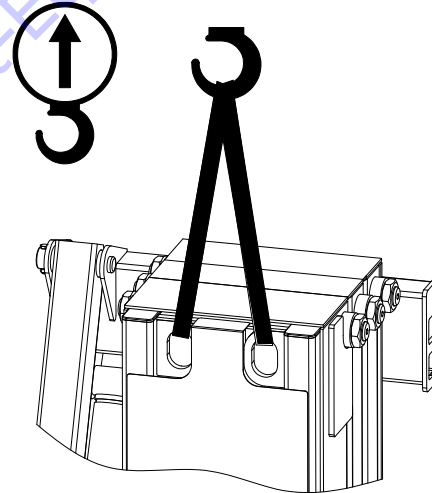

**Figure 4-9. Machine Tie-Down**
- Machine must be tied down to the truck bed or trailer deck as shown in Figure 4-9.